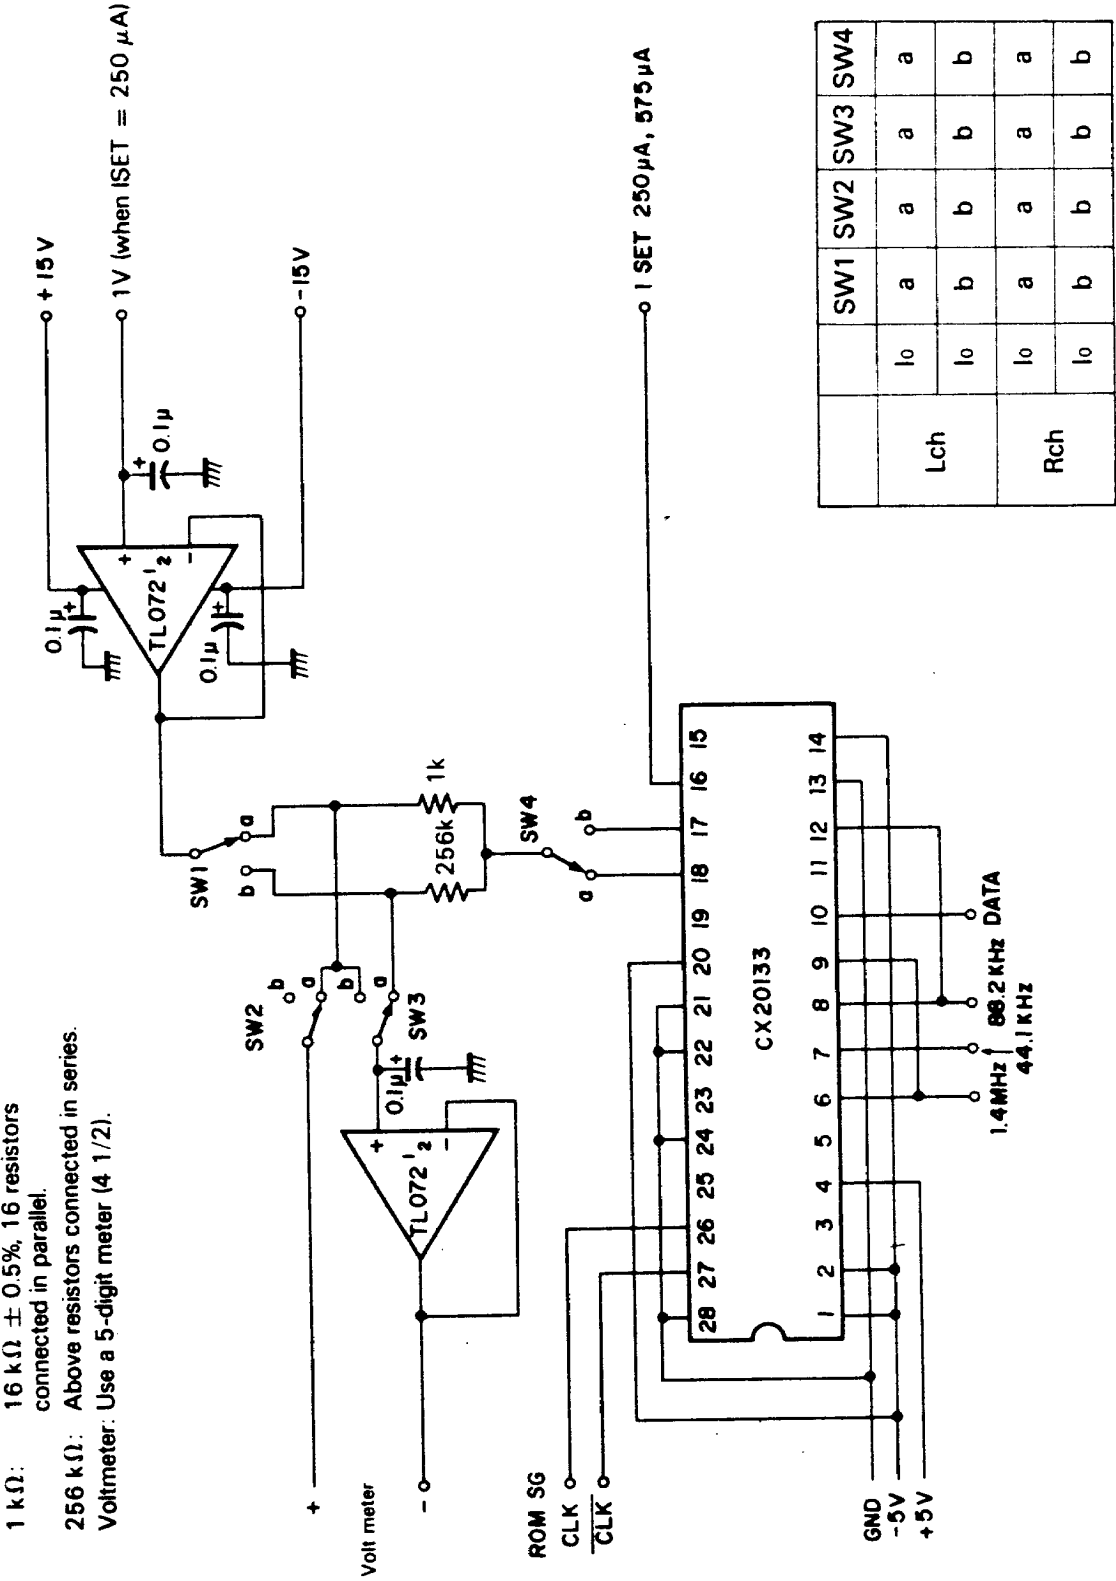

Fig. 3
2)  $I_o$  and  $i_o$  must satisfy the relation below in the Current Ratio Test Circuit (Fig. 3):
\*1 In the Current Ratio Test Circuit (Fig. 3),